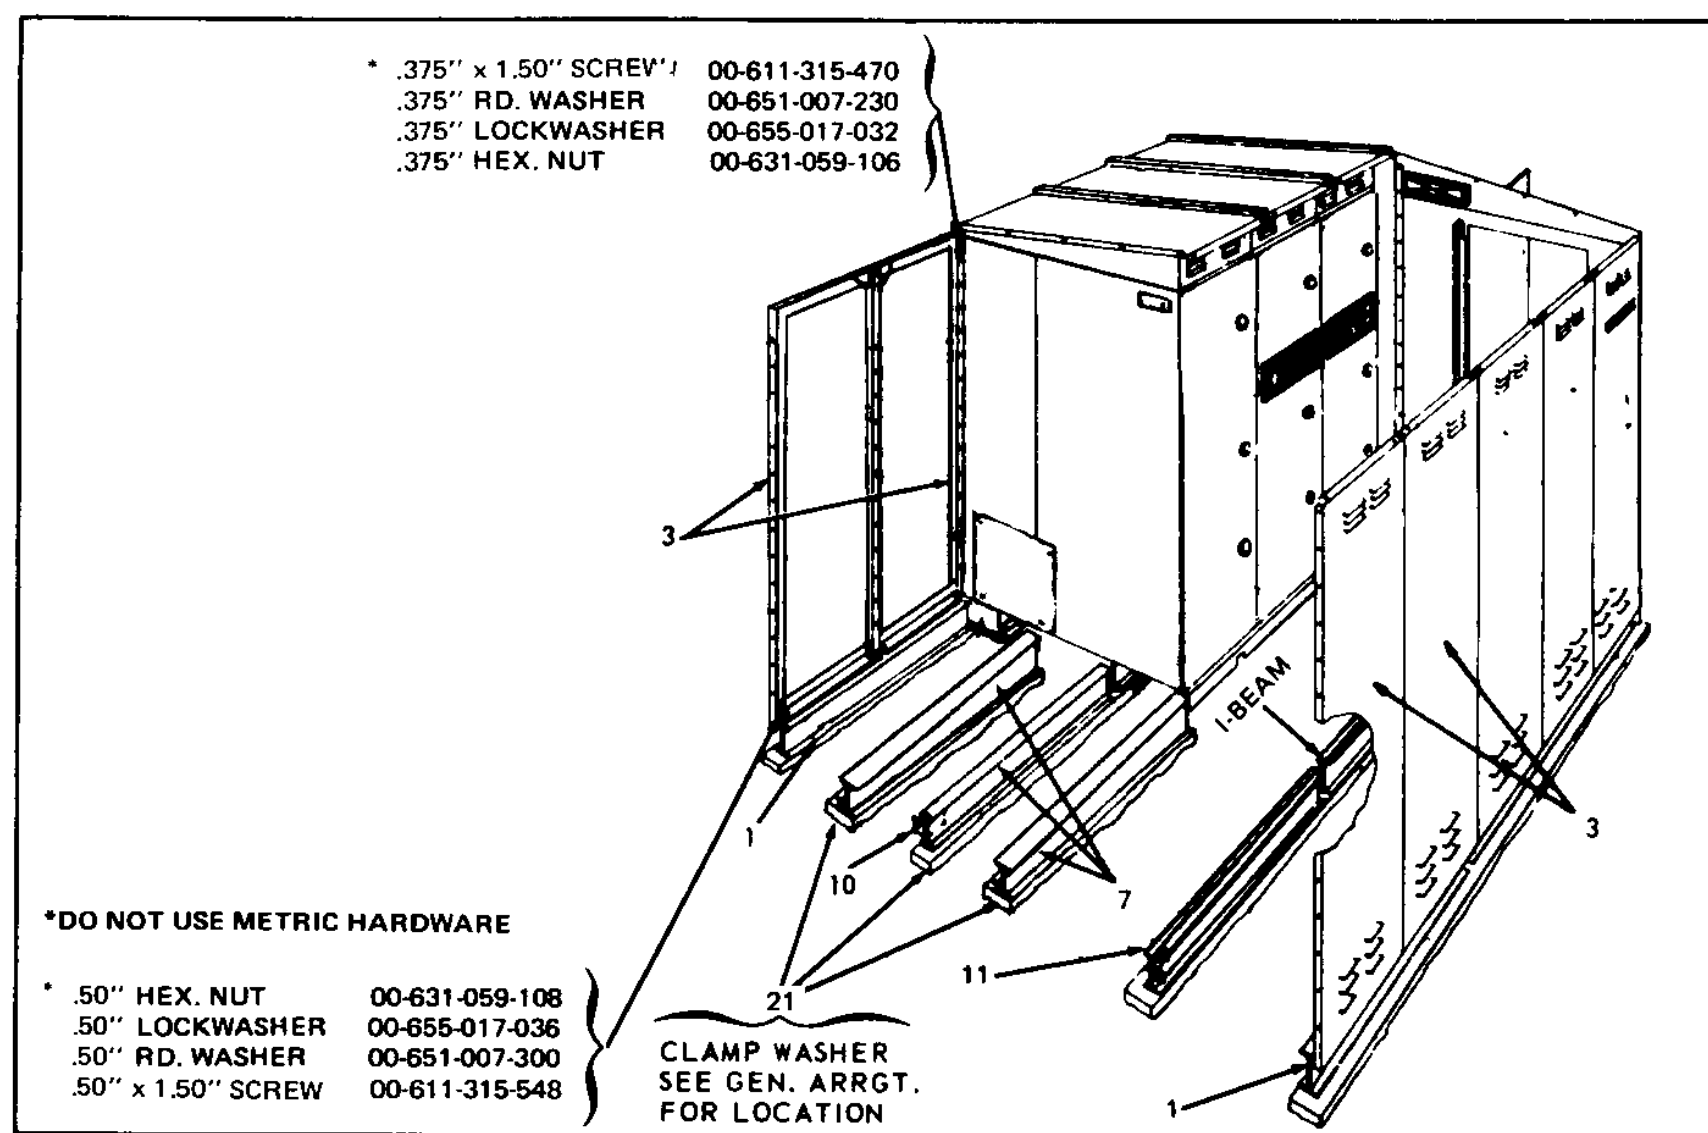

Figure 41. Beam Placement (15 kV) – Single Aisle with Work Space
5. See Figure 41. Put the work aisle and work